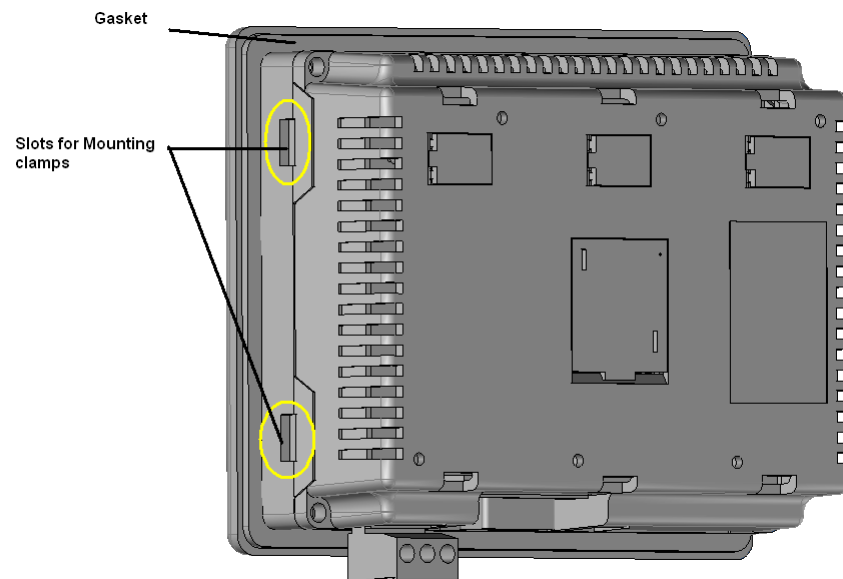

Figure 3.2: NQ-Series with gasket and mounting clamp slots
Use the delivered mounting set for proper installation. After the preparation of the panel, the NQ-Series can be mounted using the supplied clamps. The NQ-Series comes with a gasket pre-installed behind the bezel, as shown in Figure 3.2: NQ-Series with gasket and mounting clamp slots.
- 1 Locate the four mounting clamp slots in the case of the NQ-Series. The NQ3 models have their slots located at the side surfaces of the case (as shown in Figure 3.2: NQ-Series with gasket and mounting clamp slots. The slots of the NQ5 models are located at the top and bottom surfaces of the case.